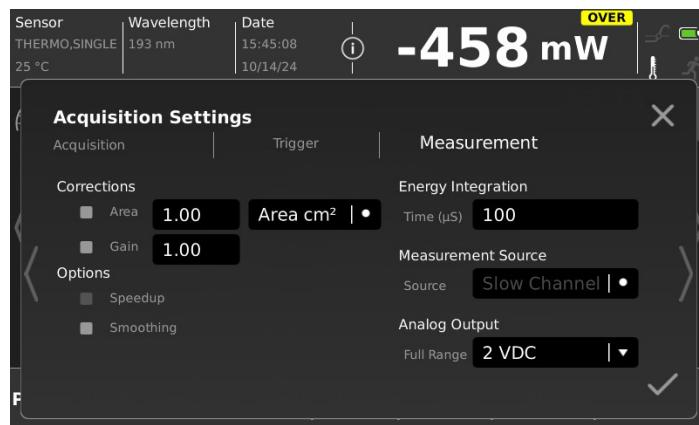

Figure 6-4. Acquisition Settings - Measurement
10. Press the **Measurement** sub-tab. Refer to Figure 6-4.